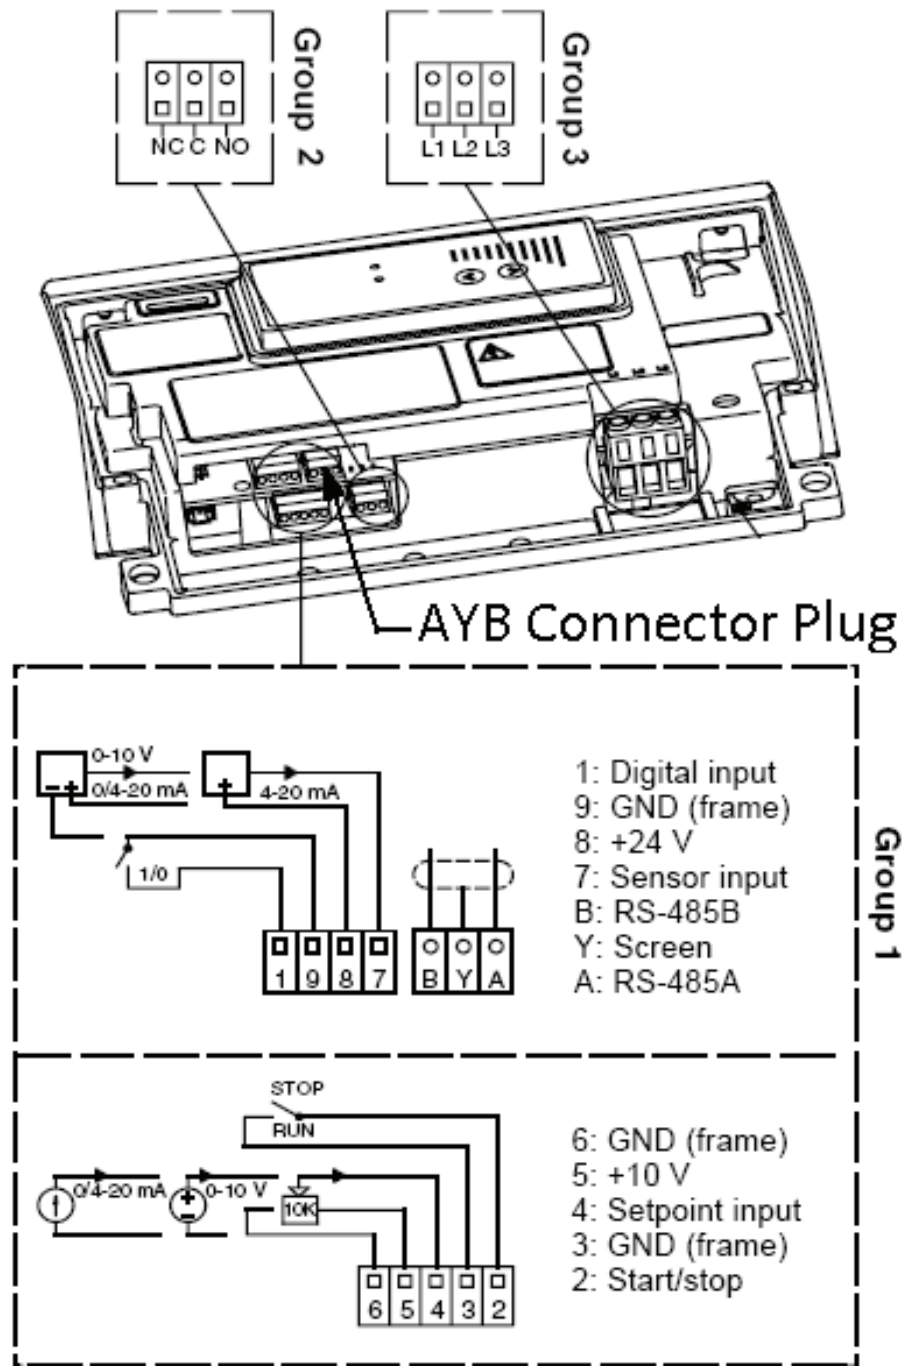

Fig. 2
- B. Thread a new cable gland into each MLE casing and tighten with an adjustable wrench on the base nut. (See Fig. 2)
- D. Remove the “AYB” connector plug from the first MLE motor. (See Fig. 2)